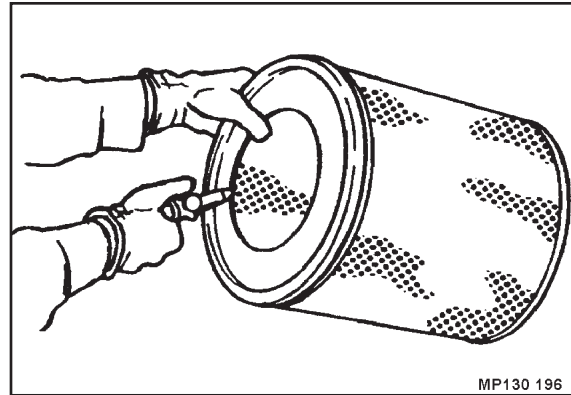

Fig. 163
- Blow the filter cartridge out from inside to outside with dry compressed air (max. 5 bar) (Fig. 163), until all dust has been removed.